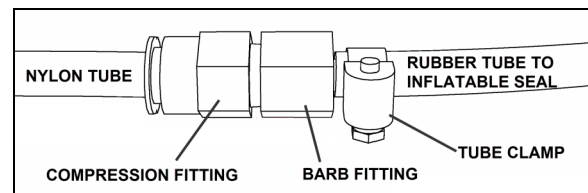

FIGURE 33: TYPICAL INFLATABLE SEAL AIR INLET
2. Unplug the nylon tubing from the compression fitting (Figure 33).